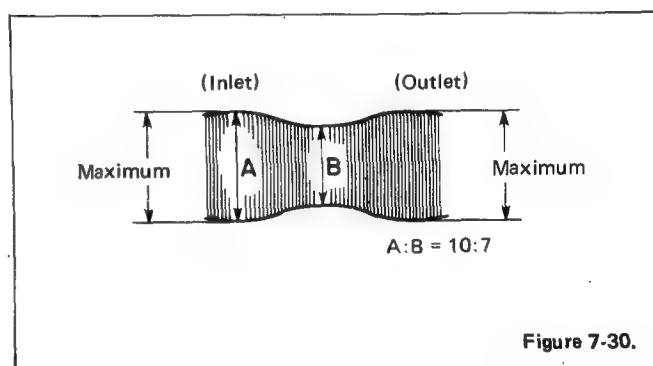

Figure 7-30.
- 5) Make adjustment in such a manner that, in Figure 7-30, the ratio of B to A is greater than 7/10 even when the tracking control is moved and width A of the RF waveform begins to decrease.